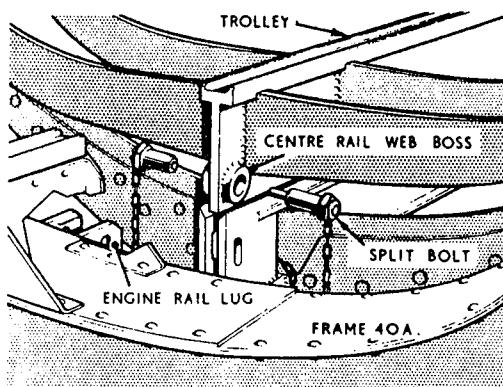

Fig. 15. Engine trolley connection
(10) After disconnecting the items detailed in sub-paras. (1) to (9), centralise the lateral adjustment handles, on the cross members above the axles, of the engine removal trolley. Wheel the trolley up to the aircraft so that the boss on the centre rail web is adjacent to the engine rail lug on the rear face of frame 40A. Screw down the built-in jack at each corner of the trolley and using the lateral adjustment, line up the centre rail web boss on the trolley with the engine rail lug on the aircraft (fig. 15).